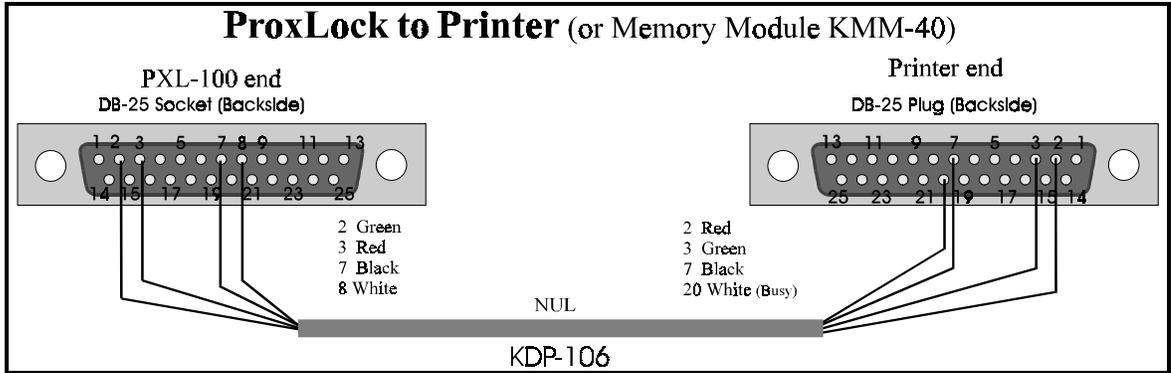

Figure 2 - The Serial Printer Cable
*NOTE: Each communication configuration requires unique cabling. Please refer to Figures 2, 3, and 4 to determine the cabling required for your application.*